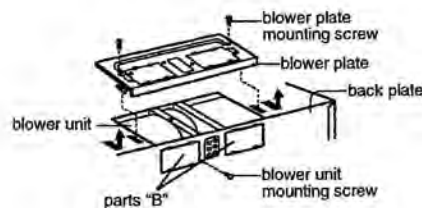

Figure 18
1. Remove one blower unit mounting screw and one or two blower plate screw(s). Remove the blower plate from cabinet. See Figure 18.